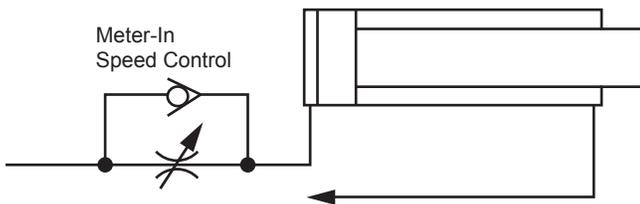

Figure 3. Meter-in speed control is preferred for cylinders with oversize or 2:1 ratio piston rods.
- If the cylinder has an oversize or 2:1 ratio piston rod (Figure 3), and is feeding in the extension direction, meter-in control may work better because there will be more oil entering the blind end than leaving the rod end, and can be metered more accurately. If this large rod cylinder is feeding in retraction, then meter-out control may work better for the same reason.